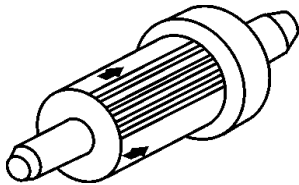

Figure 35. In-Line Fuel Filter
2. Replace the engine in-line fuel filter (Figure 35) every 200 hours. When replacing filter pay close attention to the orientation of the arrows.